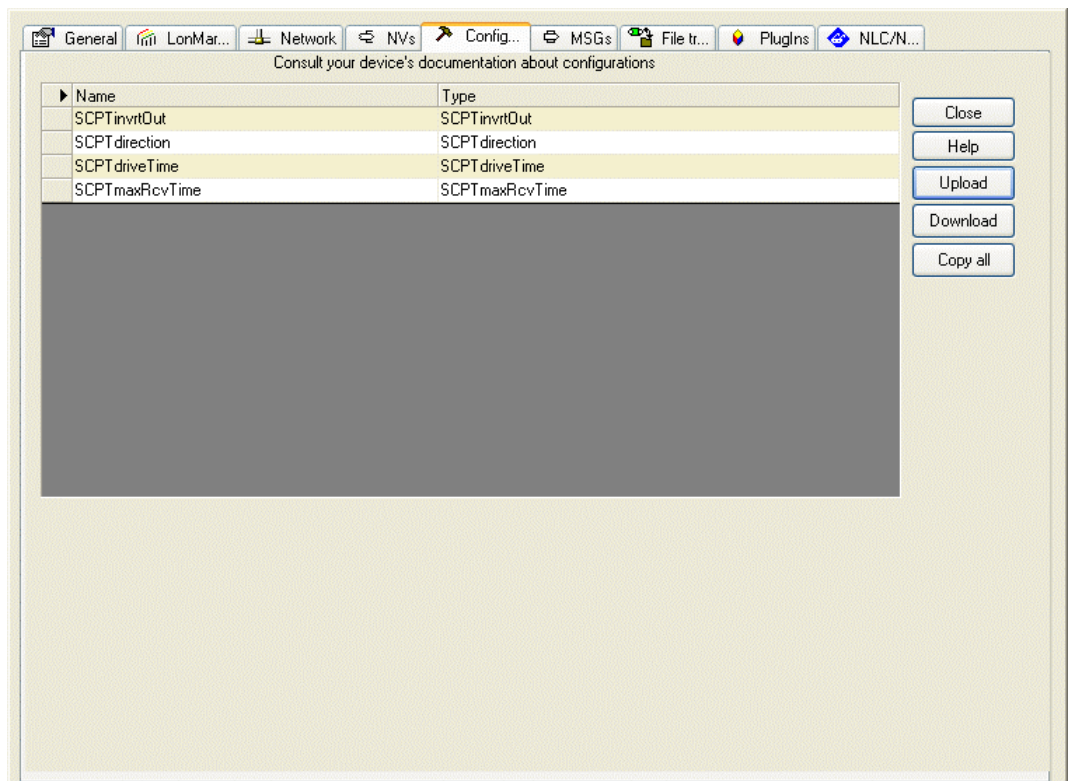

Figure 101: Configuration Tab for Configuration Properties in NL220.
2. Press the **Upload** button on the Configuration tab of the device properties (see Figure 101).